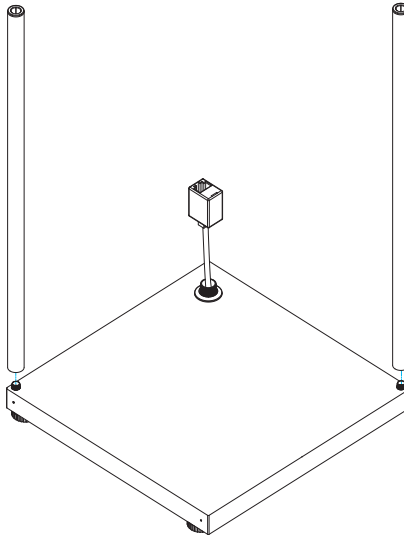

Figure 2
2. Screw two vertical stainless steel support rods into the platform opposite each other. See figure 2.